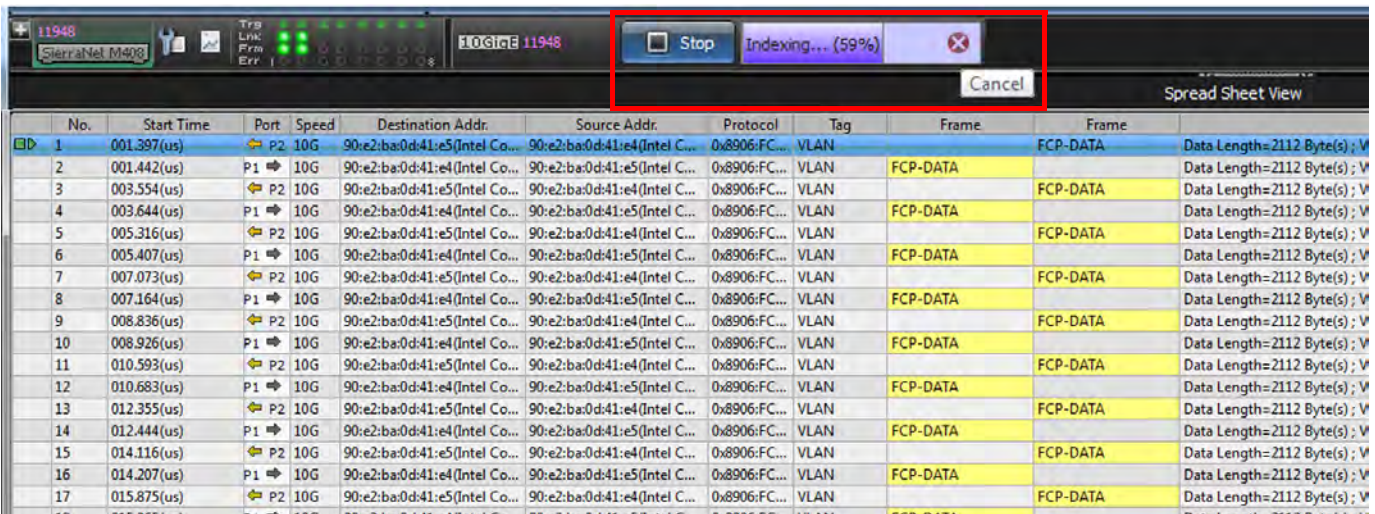

Figure 4.62: SSP While Host is Indexing Recorded Data from Analyzer Memory
- When the buffer is full the analyzer will process the data (Indexing). See Figure 4.62. When “Indexing” is displayed, this means the application is creating an index of the captured trace data while it still resides in the analyzer’s recording memory buffer. This functionality is a necessary preparation stage for opening the trace in Quick View mode.